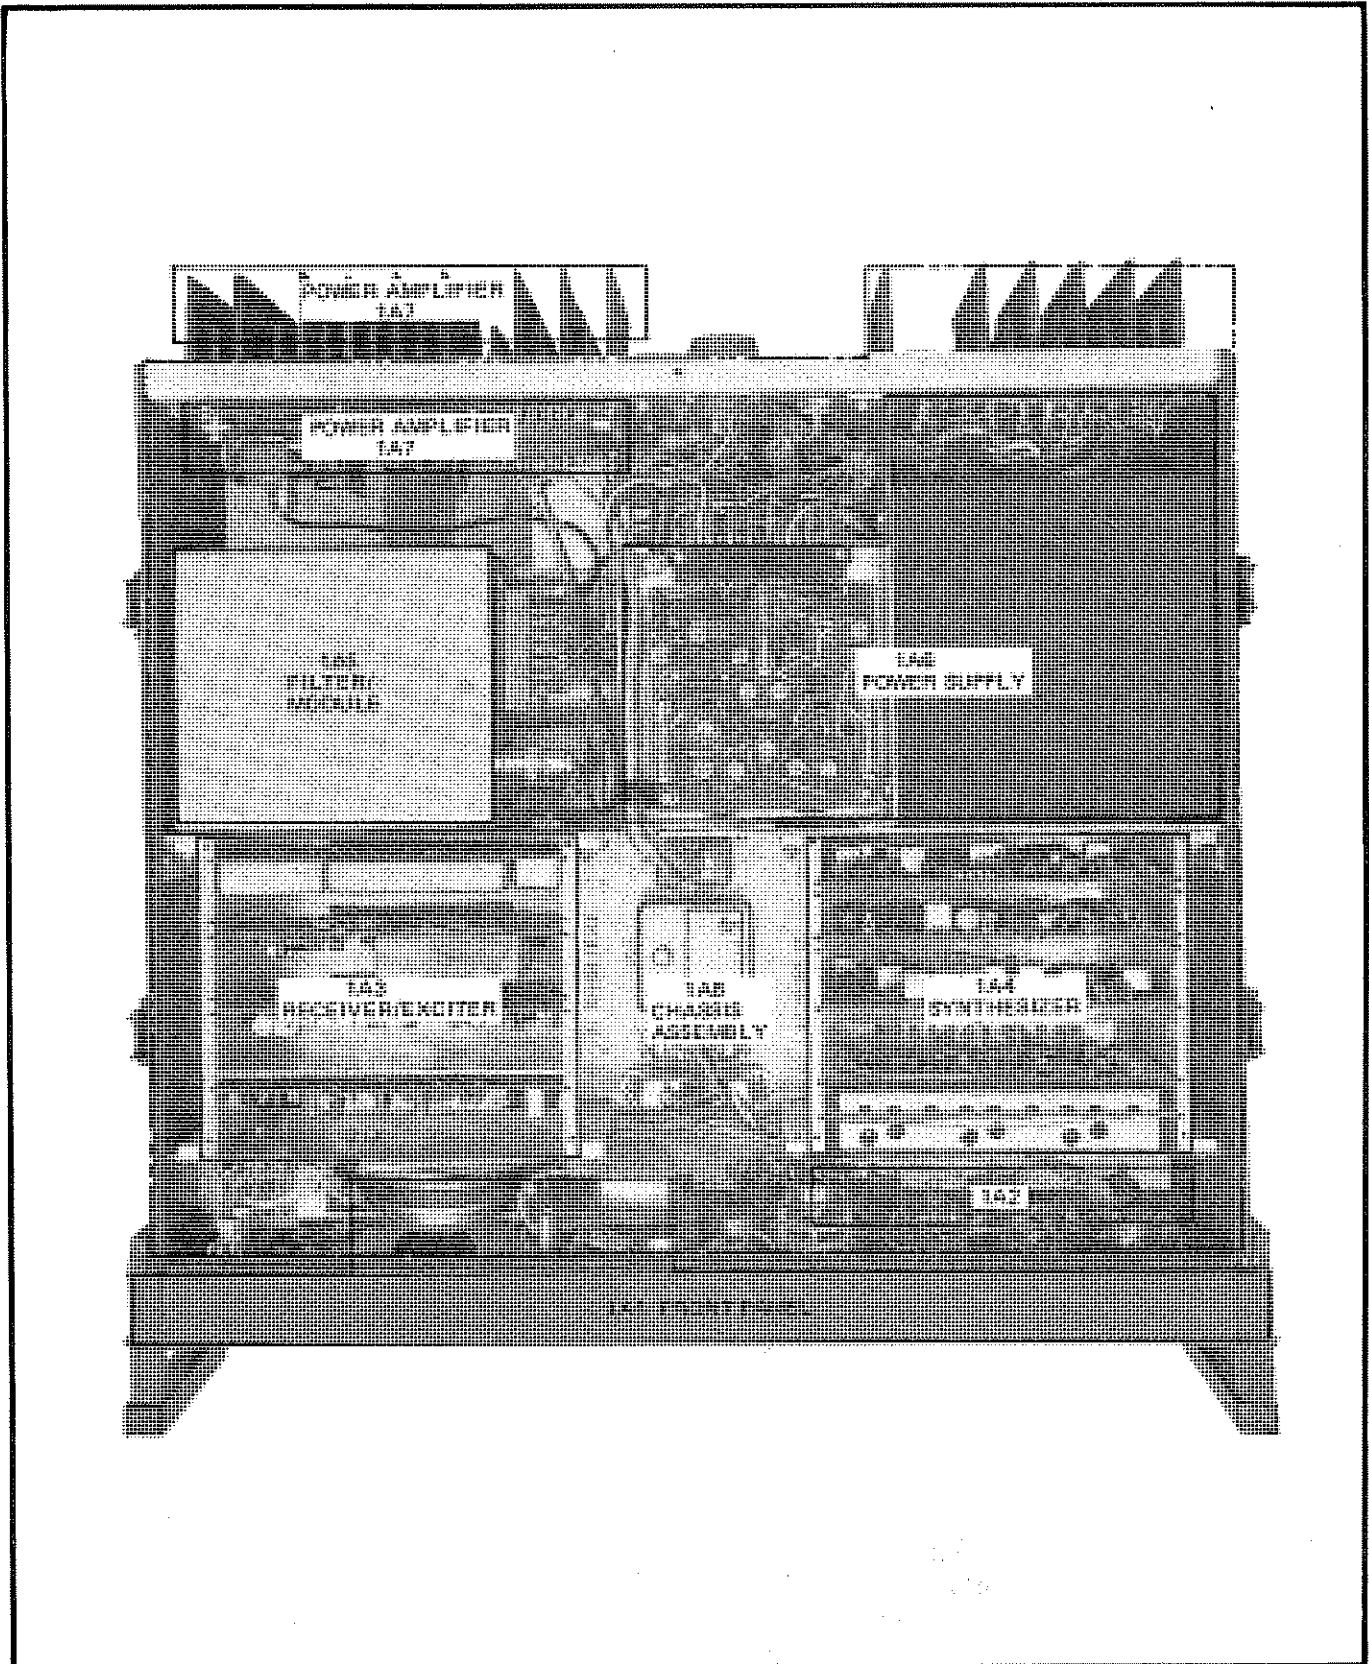

Figure 1.1 GSB-900, Major Assembly Locations
The GSB-900 is composed of seven major sub-assemblies, (1) front panel 1A1, (2) antenna coupler control panel 1A2 (optional), (3) receiver/exciter 1A3, (4) synthesizer 1A4, (5) filter module 1A5, (6) power supply 1A6, (7) power amplifier 1A7. See Figure 1.1 for major assembly location.